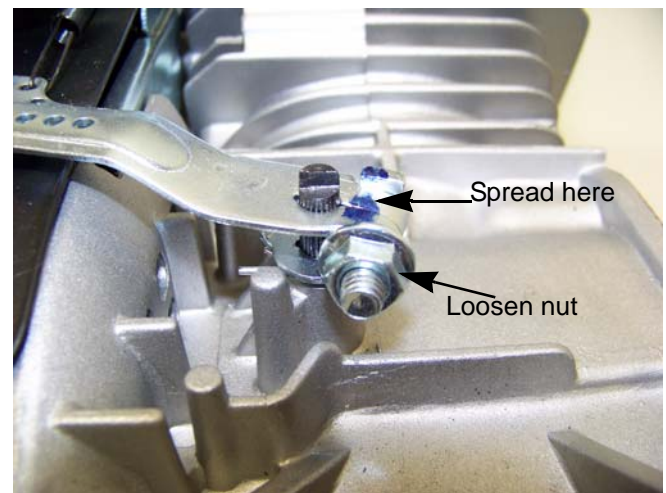

Figure 4.26
4. Loosen the nut and through bolt. See Figure 4.26.
8. Slide the arm onto the shaft. The flat on the top of the shaft should be roughly perpendicular to the arm. See Figure 4.26.